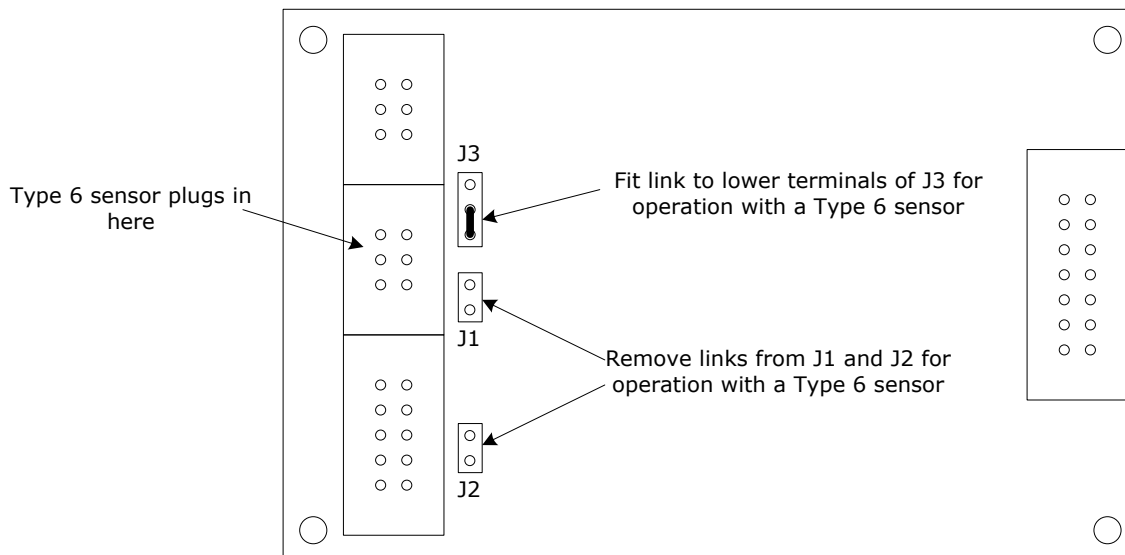

Figure 5 Link settings for a Type 6 sensor
Type 6 sensors include a single excitation coil and two COS/SIN sensor coil pairs, one fine (A) and one coarse (B). All five coils share a common return connected to VREF. The CAM312 Development Board can process one Type 6 sensor when configured as shown in Figure 5.